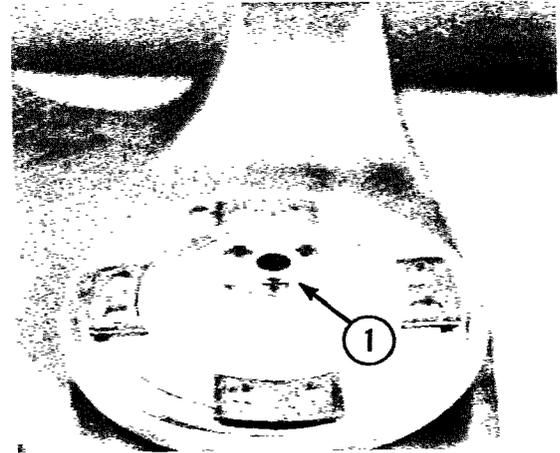

Fig. 3-3
B. Remove the bowl support cover and the three screws holding the bowl support in place (1, Fig. 3-3).